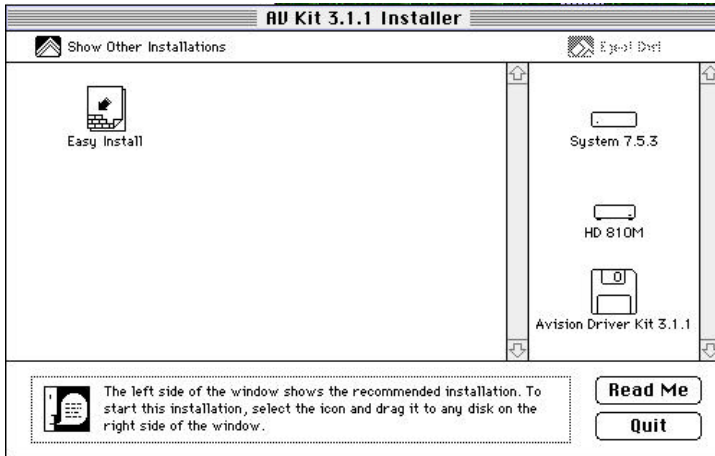

Figure 3-2 AV Kit 3.3.1 Installer
4. Double click on the "AV Kit 3.X.X Installer" icon. AV Kit 3.X.X Installer dialog box will appear as Fig. 3-2.